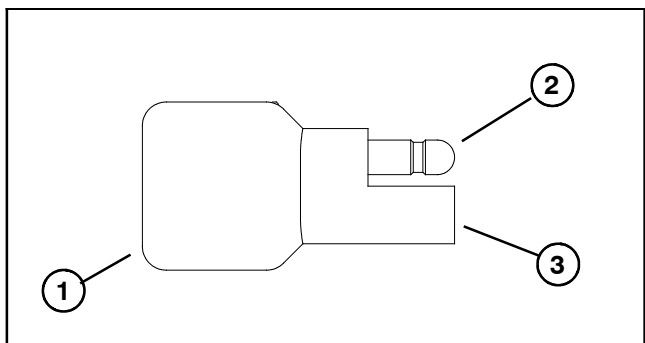

Figure 14
2. Later production machines use diodes that plug into the wiring harness (Fig. 14). Location of the diodes is under the control console.
2. Plug-in style diodes (Fig. 14):